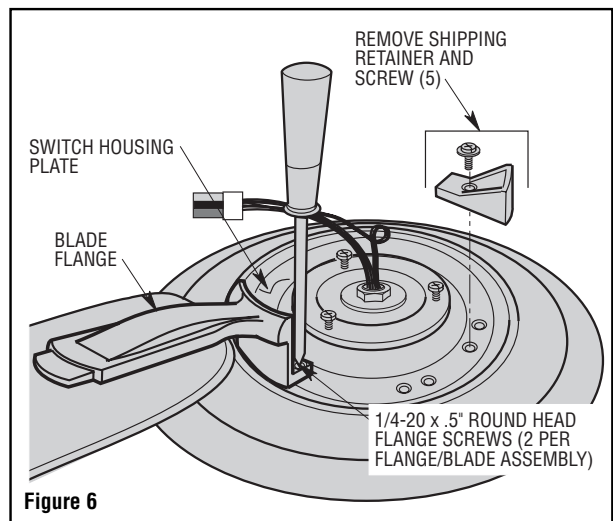

Figure 6
10. Carefully unscrew each shipping retainers from the motor housing. Discard the five screws and shipping retainers (Figure 6).
11. Attach the flange/blade assembly to the motor hub using the two 1/4-20 x .5" round head flange screws (supplied). Make sure the screws are tightened securely (Figure 6).